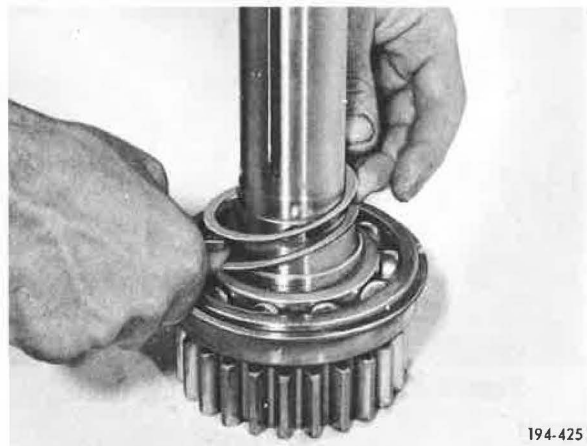

Figure 5-296. Removing Snap Ring
1. Remove bearing retaining spirolax snap ring. See Figure 5-296.